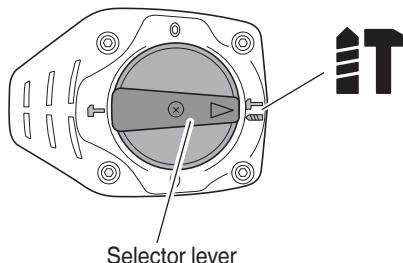

Fig. 7
- Align **▲** of the selector lever and **IT** of the crank cover as illustrated in Fig. 7.